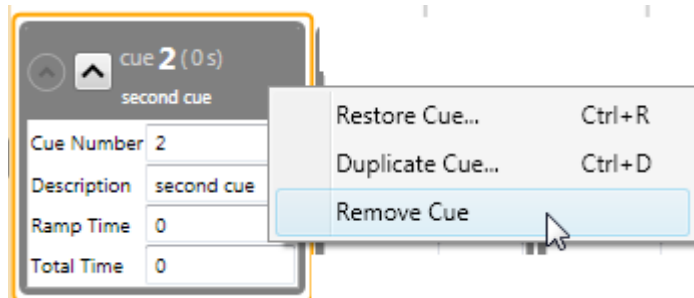

Figure 149
1. Right-click on the cue you wish to delete in the **Cue Grid** and select **Remove Cue** (Figure 149).